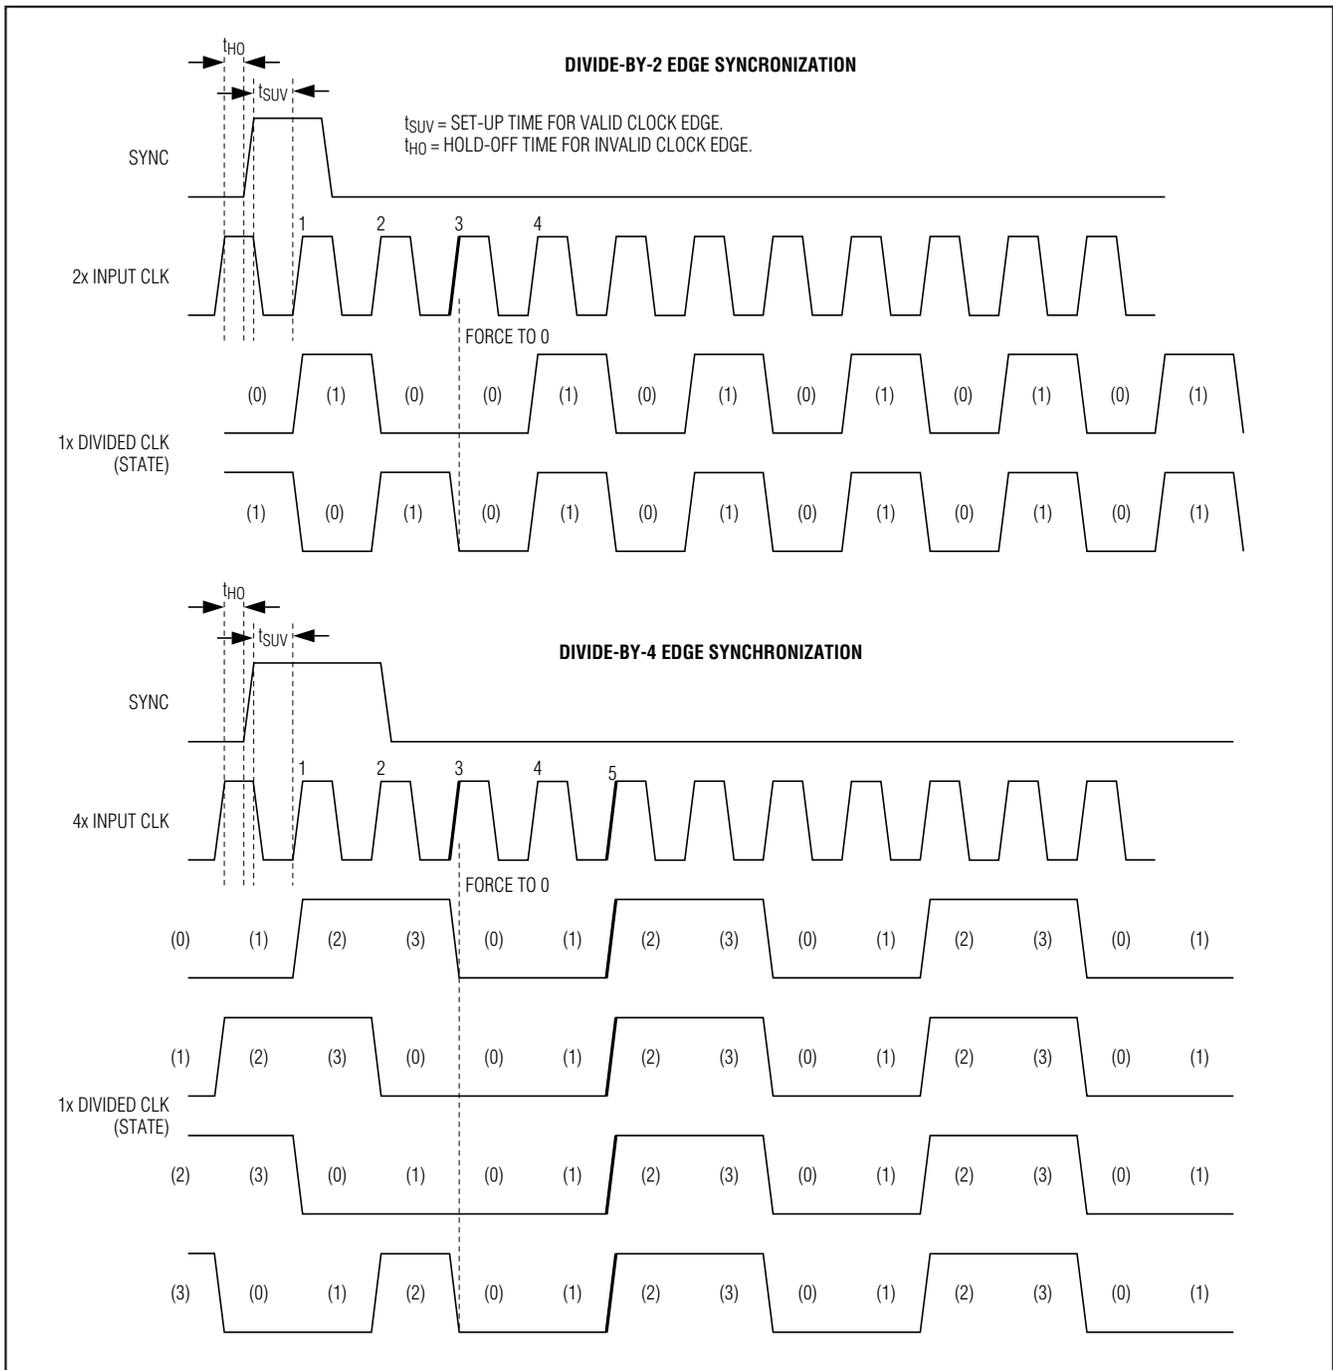

Figure 12. Edge Synchronization Mode
1 = Edge mode (Figure 12)
**Edge Synchronization Mode,  $SYNC\_MODE = 1$ :** On the third rising edge of the input clock ( $CLK$ ) after the rising edge of  $SYNC$  (provided set-up and hold times are met), the divided output is forced to state 0. A divided clock rising edge occurs on the fourth ( $/2$  mode) or fifth ( $/4$  mode) rising edge of  $CLK$ , after a valid rising edge of  $SYNC$  (Figure 12).